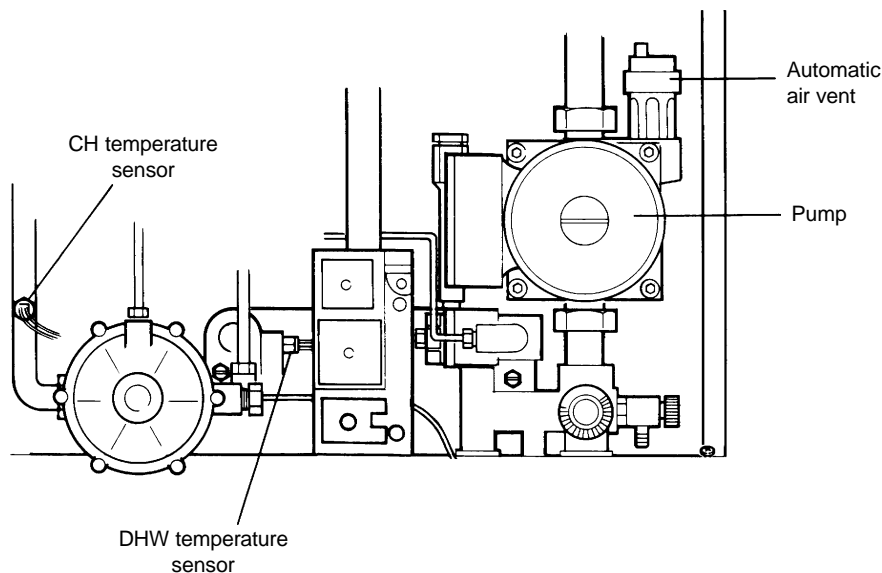

Fig. 33
8.31 TEMPERATURE SENSORS - Fig. 33
8.32 AUTOMATIC AIR VENT - Fig. 33
8.33 PUMP - Refer to Fig. 33